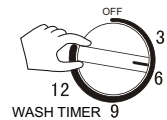

Figure 4
- Select the washing time according to the laundries. (Figure 4)